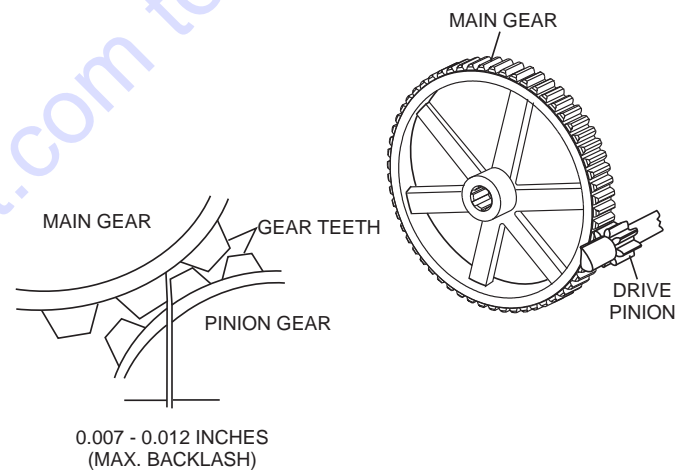

Figure 33. Drive Pinion and Main Gear (Backlash)
3. Using your hand, slightly move (rock) the drive pulley back and forth to determine the amount of backlash. Insert feeler gauge between gears to determine backlash distance. Backlash should range between 0.007- 0.012 inches (Figure 33).
- There are two grease (Figure 33) fittings at each end of the electric motor that will require lubrication. Lubricate these fittings about every 16 months.